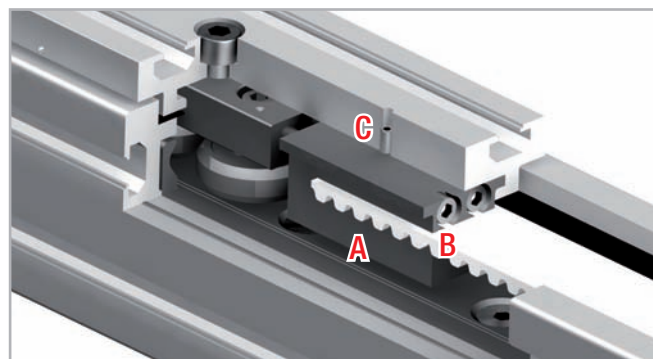

Fig. 59
1. Unscrew the safety screws C (on top of the slider plate) from the belt tensioning device A (see fig. 59).